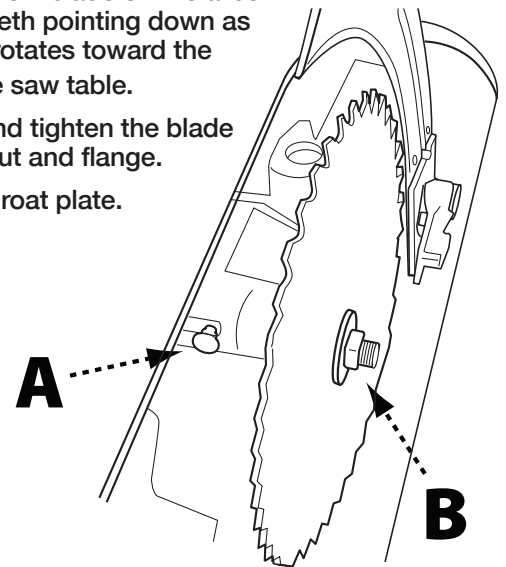

FIGURE 14
2. Push and hold arbor lock button (A) shown in Figure 14.
3. Use included arbor wrench to remove the blade retaining nut and flange (B). Remove old blade.